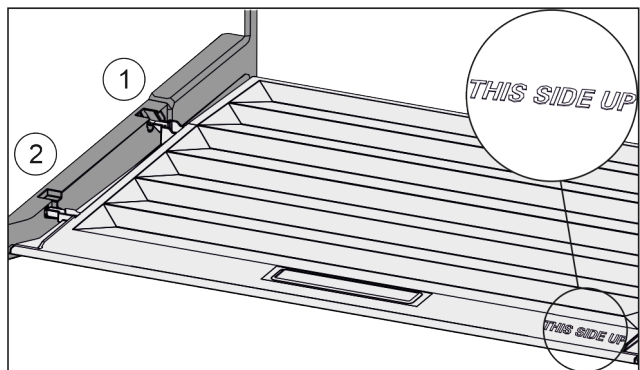

Fig. 47
- ▶ Insert the lip of the cover over the opening of the rear bracket Fig. 47 (1) and click into place Fig. 47 (2).